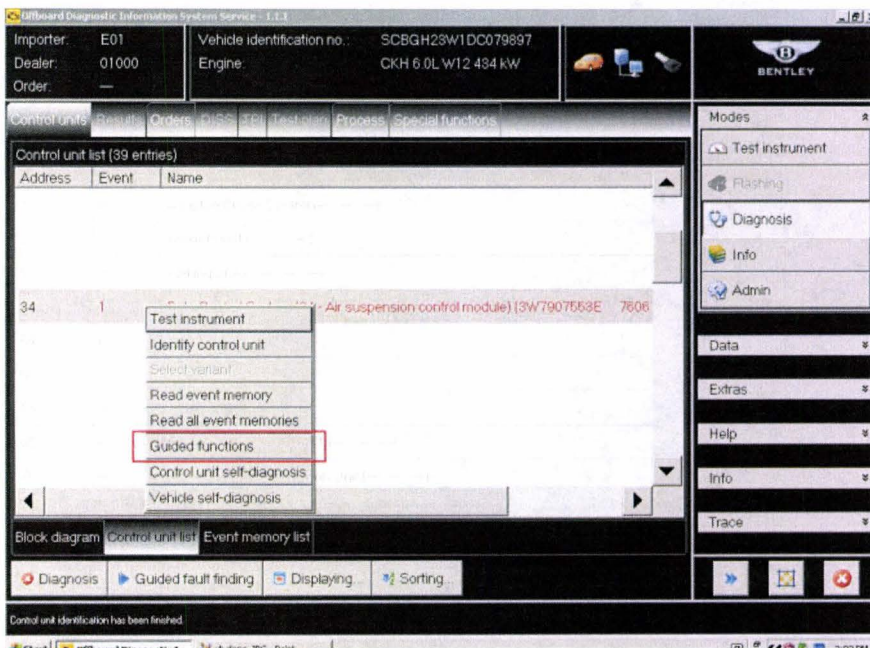

Figure 9
8. Once back within Control units – Select 34 (single touch) – Reveal drop down menu (extended touch and release), Select *Guided functions* (see Figure 9)